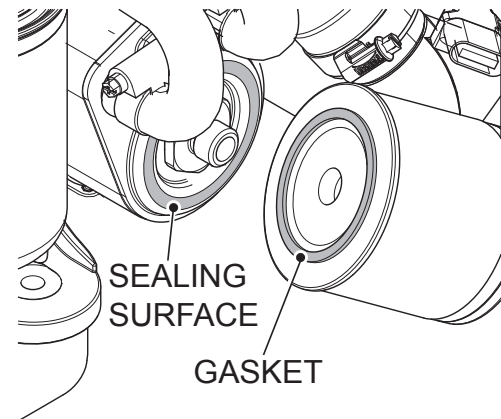

Figure 38. Changing Oil Filter
3. Thoroughly clean the sealing surface (Figure 38).